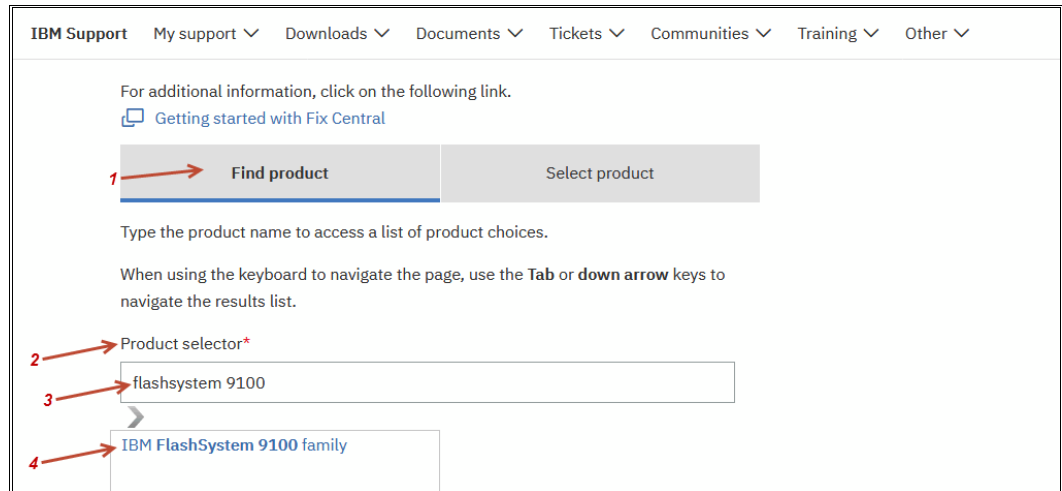

Figure 8-26 IBM Fix Central Support Portal
1. After signing in with your IBMid, a page opens to the Support Portal (Figure 8-26 on page 337). In the **Find product (1)** tab, go to **Product selector (2)** field and start typing FlashSystem 9100 **(3)**. Select **IBM FlashSystem 9100 family** from the list **(4)**. The IBM FlashSystem 9100 specific information is displayed.